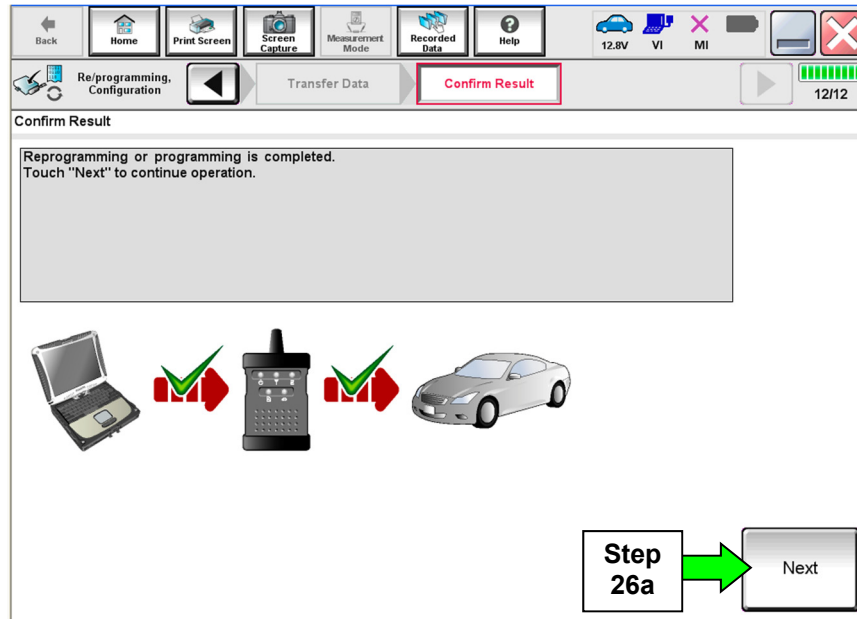

Figure 20
26. When the screen in Figure 20 appears, reprogramming is complete.